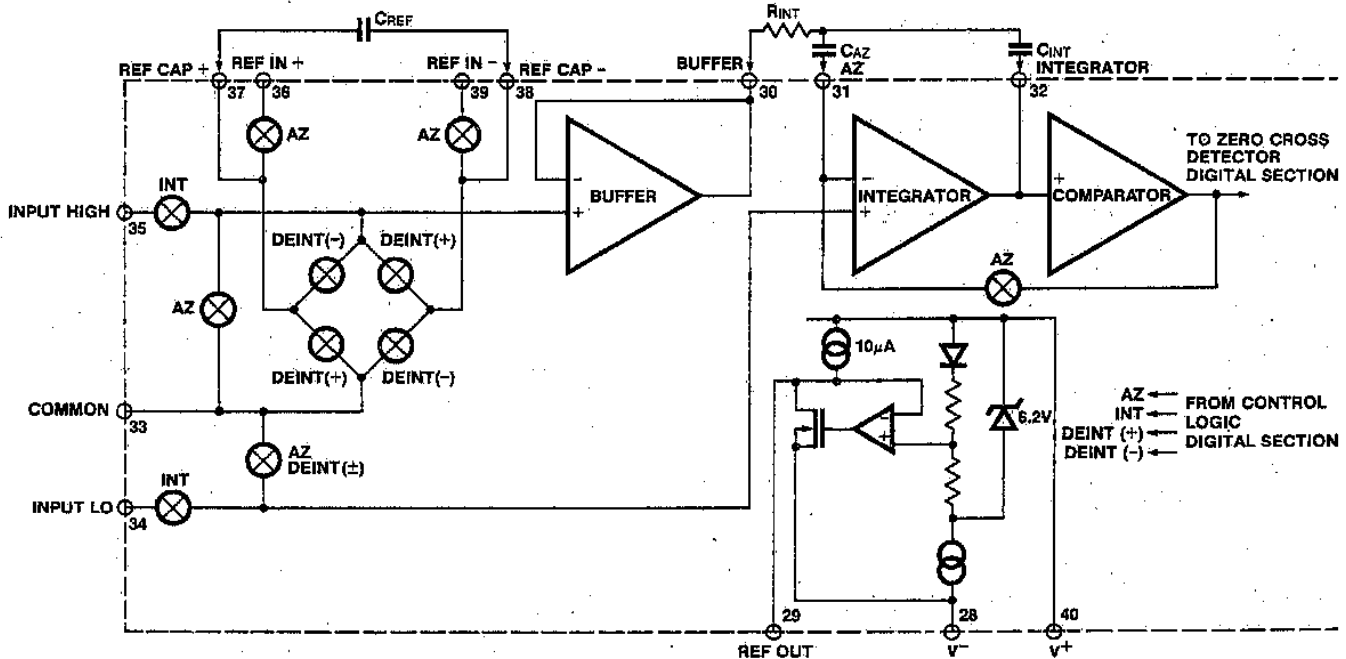
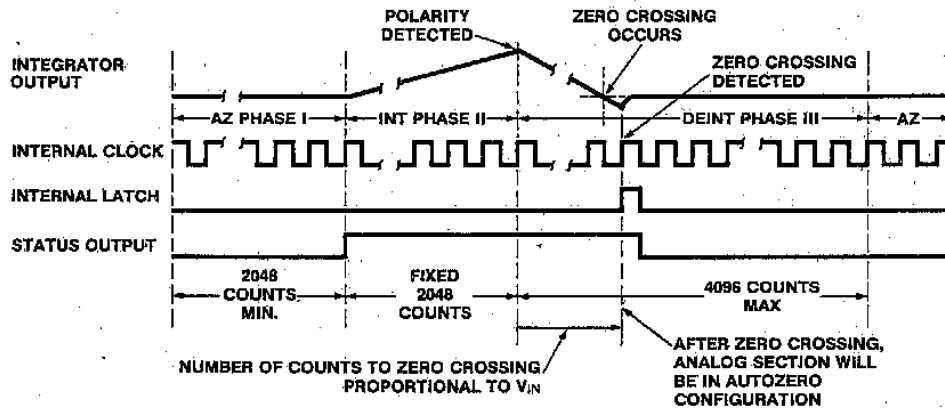

Figure 2: Analog Section
Figure 3: Conversion Timing (RUN/HOLD Pin High)
Figure 2 shows the equivalent circuit of the Analog Section of the ICL7109. When the RUN/HOLD input is left open or connected to V⁺, the circuit will perform conversions at a rate determined by the clock frequency (8192 clock periods per cycle). Each measurement cycle is divided into three phases as shown in Figure 3. They are (1) Auto-Zero (AZ), (2) Signal Integrate (INT) and (3) Deintegrate (DE).
During a conversion cycle, the STATUS output goes high at the beginning of Signal Integrate (Phase II), and goes low one-half clock period after new data from the conversion has been stored in the output latches. See Figure 3 for details of this timing. This signal may be used as a "data valid" flag (data never changes while STATUS is low) to drive interrupts, or for monitoring the status of the converter.
When the RUN/HOLD input is high, or left open, the circuit will continuously perform conversion cycles, updating the output latches after zero crossing during the Deintegrate (Phase III) portion of the conversion cycle (See Figure 3). In this mode of operation, the conversion cycle will be performed in 8192 clock periods, regardless of the resulting value.